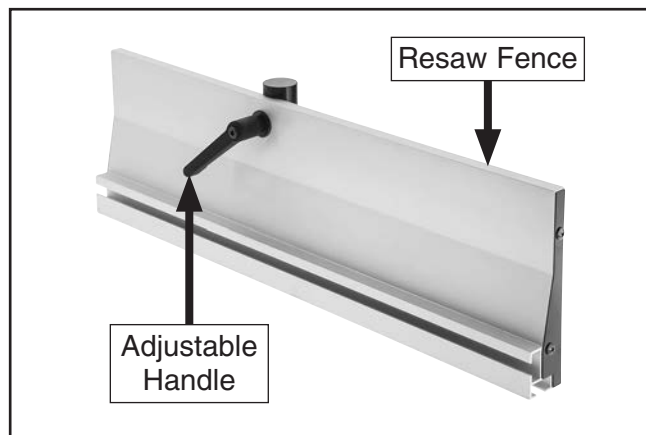

Figure 34. Adjustable handle installed on drift bar.
26. Insert adjustable handle with fender washer through the back of resaw fence (see **Figure 34**).